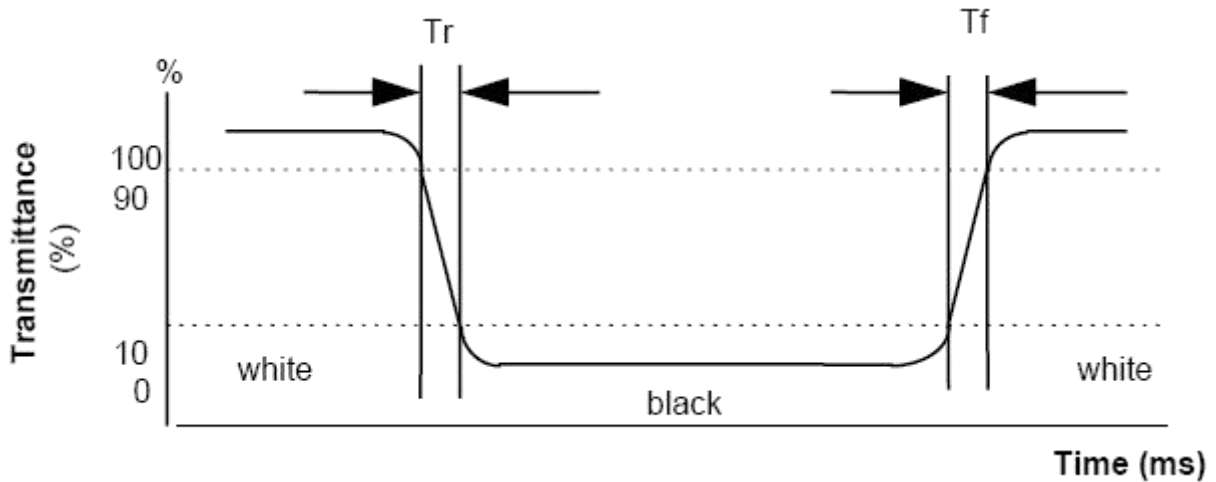

**FIG. 2 The definition of Response Time**
3. Response time is the time required for the display to transition from white to black (Rising Time, Tr) and from black to white (Falling Time, Tf). For additional information see FIG 2.